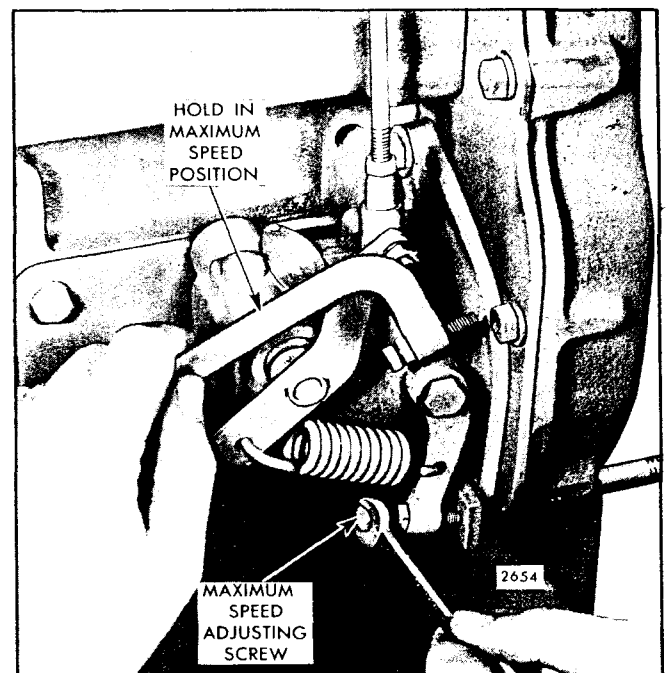

Fig. 5 - Adjusting Maximum No-Load Speed
2. Adjust the maximum speed adjusting screw (Fig. 5) until the desired no-load speed is obtained.